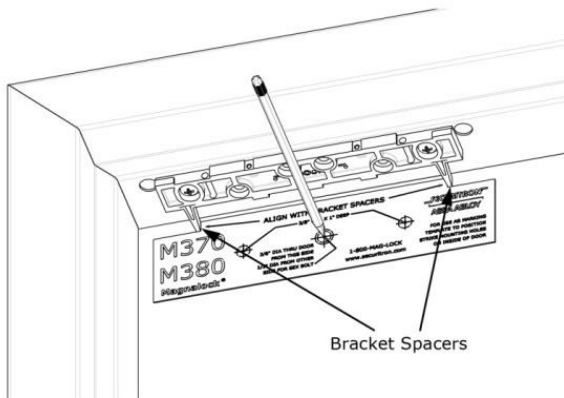

Figure 17. Marking the Strike Plate Hole Locations
2. **MARK** the strike plate hole locations (see Figure 17, “Marking the Strike Plate Hole Locations”).